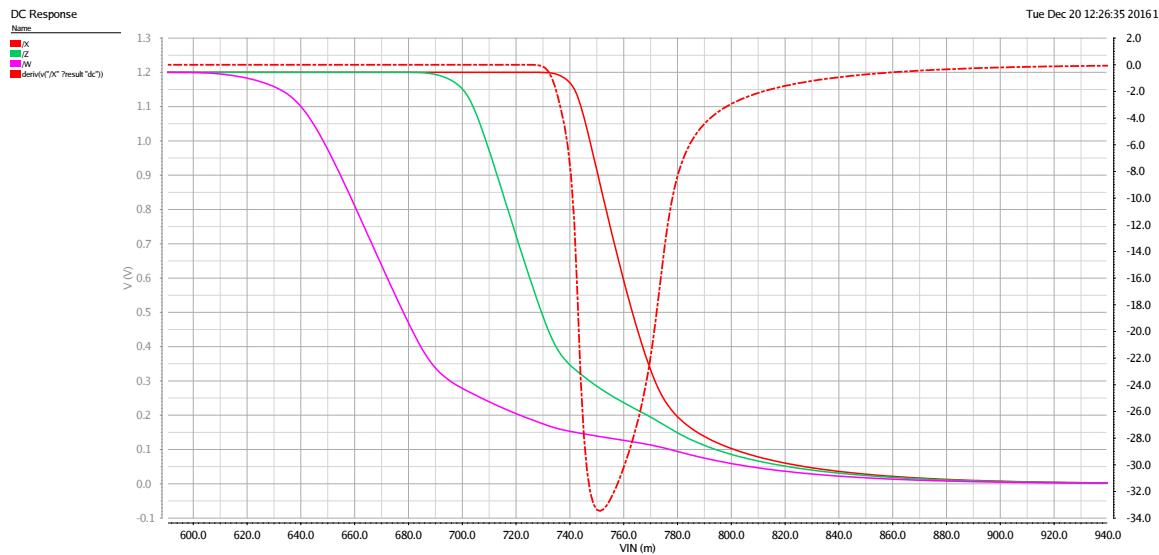

Figure 5.5: Voltage transfer curves (VTC) for the three outputs X, Y and W and the derivative of the VTC for output X.
Figure 5.5 shows the voltage transfer curves for three of the four logical gates in the schematic Figure 3.1 simulated with all transistors having the same widths and with all four inputs, A-D, connected together, so that there is now only one input. The VTCs have been simulated in a DC analysis in Cadence in the usual 65 nm process. For simplicity you can assume that $V_{TN} \approx -V_{TP}$.
- Which logical output of Y1-Y4 corresponds to each of the three VTCs named X (red), Y(green) and W(purple) in the graph in Figure 5.5? Motivate! (3 p)
- In Figure 5.5 is also a plot of the derivative of the VTC for the X output (the red dash-dotted line). From the data given in Figure 5.5 calculate the noise margin for the X output. The graph in Figure 5.5 is repeated in larger scale in Figure A.1 for your convenience. (3 p)